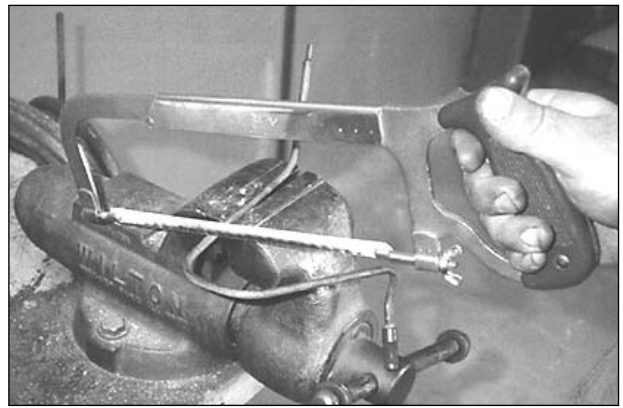

Figure 1 - Cut heat riser tube as shown. Use with 1/4" vacuum hose.
7. Prepare right side heat riser tube prior to installation as shown in **Figure 1**. Cut tube and use 1/4" vacuum hose (supplied) to connect to heat riser vacuum pod.